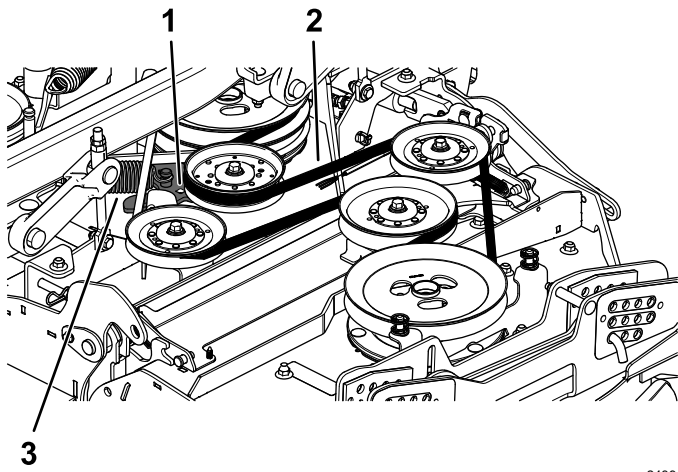

Figure 59
7. Using a ratchet in the square hole in the idler arm, rotate the idler arm rearward to remove tension on the idler spring (Figure 59).
8. Remove the belt from the mower deck pulleys (Figure 59).